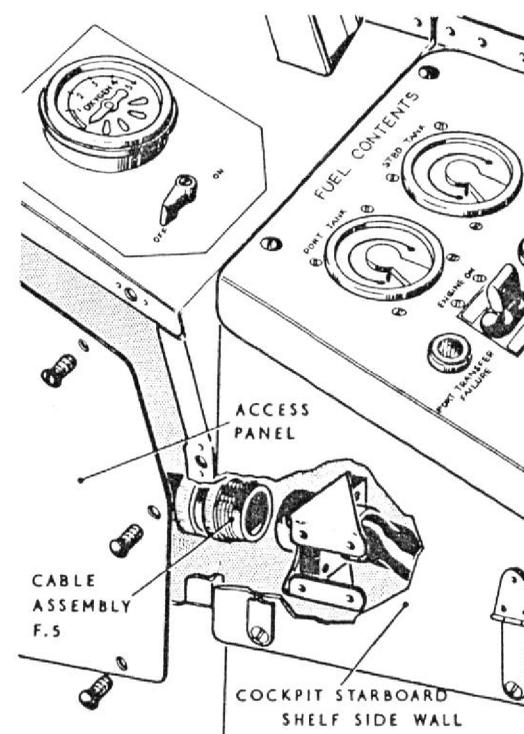

Fig. 5. Plug at forward end of cabin starboard shelf
- (1) *Render the aircraft electrically safe (Group A.1).*
- (2) Disconnect all the plugs and sockets on the cable assemblies at the end plate at the rear end of the shelf. Seal off the plugs and sockets with approved caps and covers and stow the cable assemblies away from the shelf.
- (3) Disconnect cable assemblies F33A and F33B from the A.C. junction box, and fit approved caps and covers to the plugs and sockets and coil back the cable assemblies to the starboard shelf.
- (4) Disconnect cable assembly F5 from the plug mounting bracket at the forward end of the shelf (*fig. 5*). Seal off the plug and socket with an approved cap and cover. Stow the cable assembly clear of the shelf.
- (5) Remove the radio compass control panel from the shelf (*as described in Sect. 1*).
- (6) Release the emergency oxygen control cable duct, from the shelf side wall, by removing the bolt securing the clip around the top of the cable duct.
- (7) Release the shelf from the fixed structure by disengaging all the Dzus fasteners around the top face and side wall. Withdraw the shelf from the cabin, complete with cable assemblies F33 and F34.